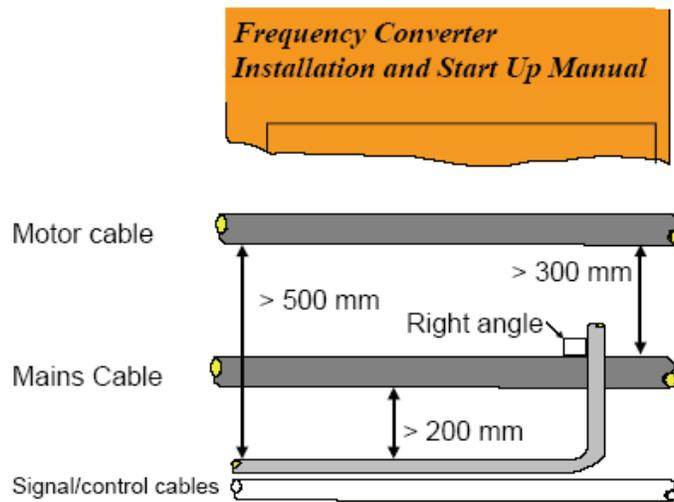

Figure A-2: Recommended Cable Segregation
- Where control cables must cross power cables, this should be done with angle as near to 90 degrees as possible. Refer to Figure A-2.